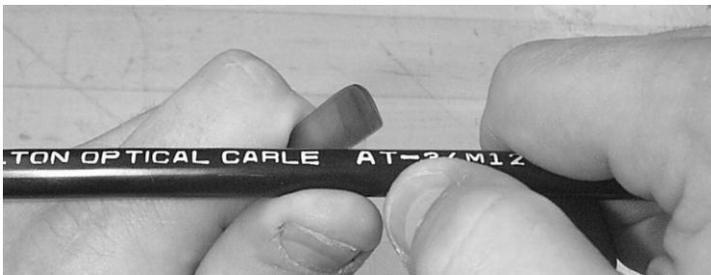

Figure 17 – Ring cut the cable jacket.
5.2 Use a cable sheath knife to ring cut around the cable at one of the measured marks. Lightly score the cable jacket rather than cut all the way through (Figure 17).